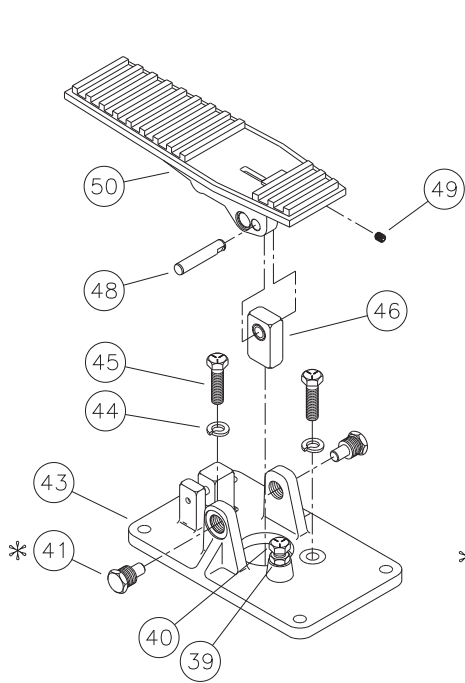

FIGURE 3
1. Depress pedal (50) and remove pedal stop screw (40) and jam nut (39) from base (43). Also loosen jam nut (38) for later removal of clevis (46).
2. Remove cap screws (45) and lock washers (44) from base (43).
3. Remove e-rings (42) from ends of pins (41). Remove pins (41). **NOTE: Some models use threaded studs (41), Figure 3, in place of pins (41) and e-rings (42).**
4. Remove set screw (49) from pedal (50). Remove e-rings (47) from both ends of pin (48). **NOTE: Not all models use e-rings (47).**
5. Separate pedal and base by removing pin (48) through clearance hole in pedal (50). Remove pedal (50) and base (43).
6. Temporarily insert pin (48) into clevis (46) and record distance from top of pin (48) to mounting flange of housing (34). This measurement will be necessary for reassembly purposes. **NOTE: Apply slight downward force on clevis (46) while taking measurement to assure that rod (29) is in contact with piston (28).**
7. Remove clevis (46) and jam nut (38) from rod (29).
8. Separate housings (14 & 34) by removing cap screws (36) and lock washers (35).
9. Remove rod (29), piston (30), spring (31), spring (32), and washer (33) from housing (34). Remove boot (37) from housing (34). **NOTE: Not all models use spring (32) or washer (33).**
10. Remove piston (28), shim(s) (27) and spring (26) from housing (14) bore. Note the number of shims being removed for reassembly purposes.
11. Remove o-ring (25) from housing (14) bore. **NOTE: Be careful not to scratch or mar housing bore.**
12. Remove retaining ring (24) from housing (14) bore. **NOTE: Be careful not to scratch or mar housing bore.**
13. Remove retainer (23) from housing (14) bore.
20. Place base (43) on housing (34) mounting flange. Position pedal (50) and insert pin (48) through clearance hole in pedal and into clevis (46). **NOTE: Position pin so the flat area is aligned with set screw hole in pedal.**
21. Install set screw (49) in pedal (50) and torque 8.5-9.6 N·m (75-85 lb·in). Install new e-rings (47) on each end of pin (48). **NOTE: Not all models use e-rings (47).**
22. Insert pins (41) through base (43) and into pedal (50). Install new e-rings (42) on pins (41). **NOTE: Some models use threaded studs (41), Figure 3, in place of pins (41) and e-rings (42). Threaded studs to be torqued 47.5-54.3 N·m (35-40 lb·ft).**
23. Attach base (43) to valve assembly using cap screws (45) and lock washers (44). Torque cap screws (45) 29.8-36.6 N·m (22-27 lb·ft).
24. Fully depress pedal (50) and torque jam nut (38) 27.1-32.5 N·m (20-24 lb·ft) against clevis (46).
25. Install pedal stop screw (40) and jam nut (39). **NOTE: With pedal in the release position, adjust pedal stop screw and jam nut so there is 0.38 to 0.76 mm (0.015-0.030 in) of clearance between the pedal and top of pedal stop screw. Torque jam nut (38) 27.1-32.5 N·m (20-24 lb·ft).**